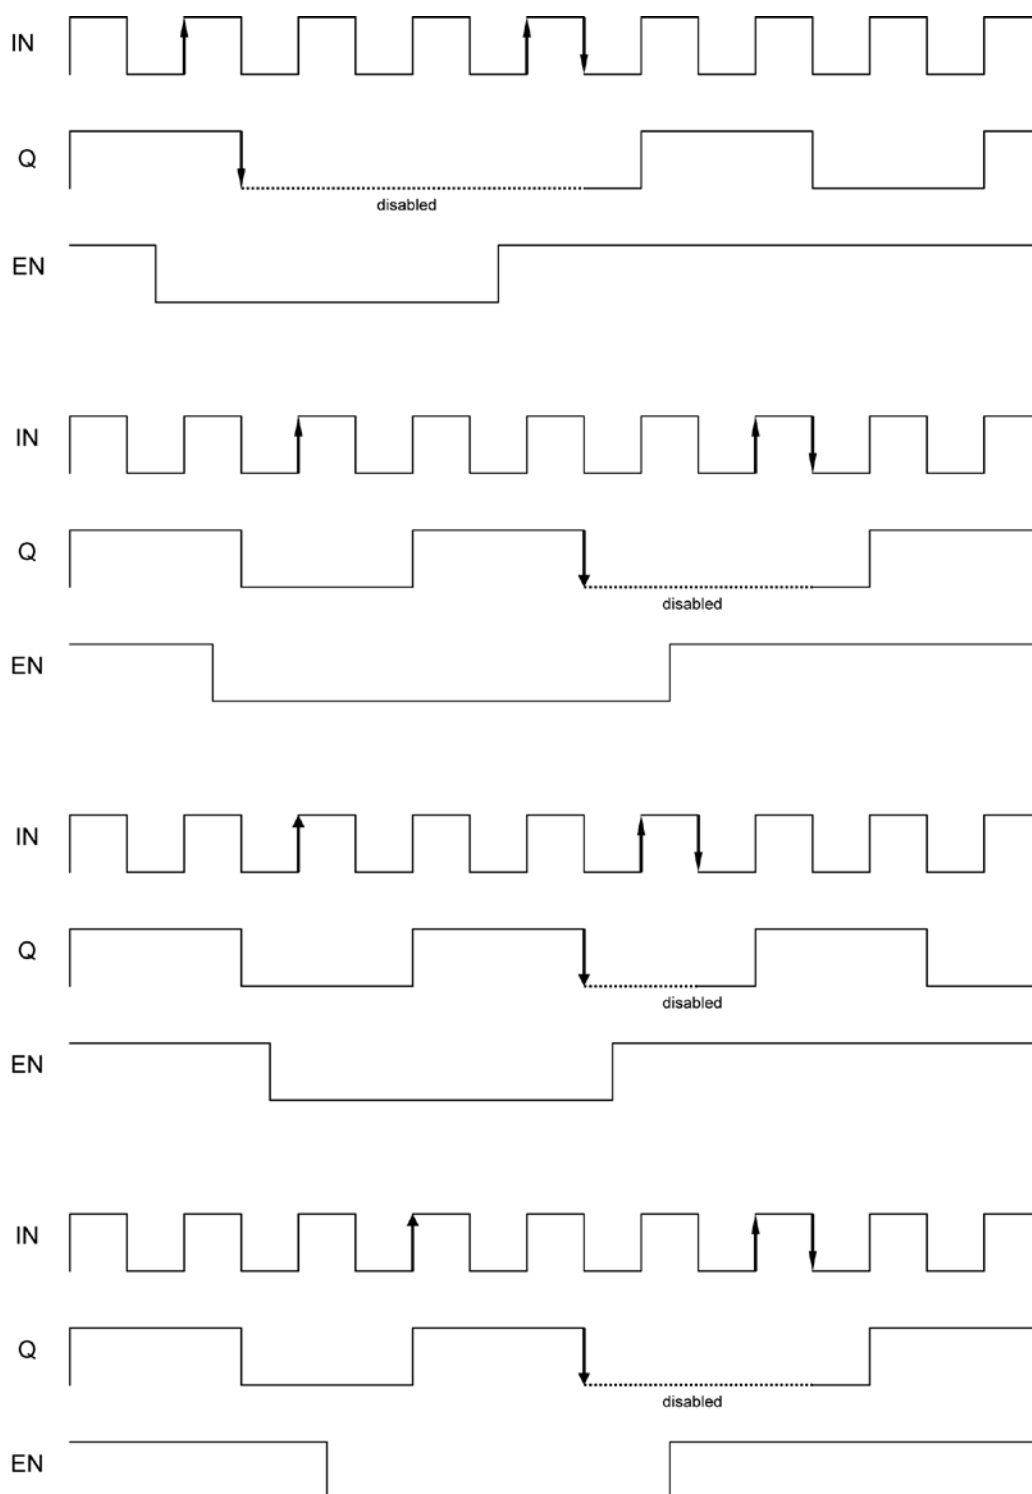

Figure 1b. Enable Output Timing Diagram Examples (divide by 3)
2. The enable/disable function always guarantees the full pulse width at the output before the clock outputs are disabled, non-depending on the divider ratio. Refer to Figure 1b for examples.